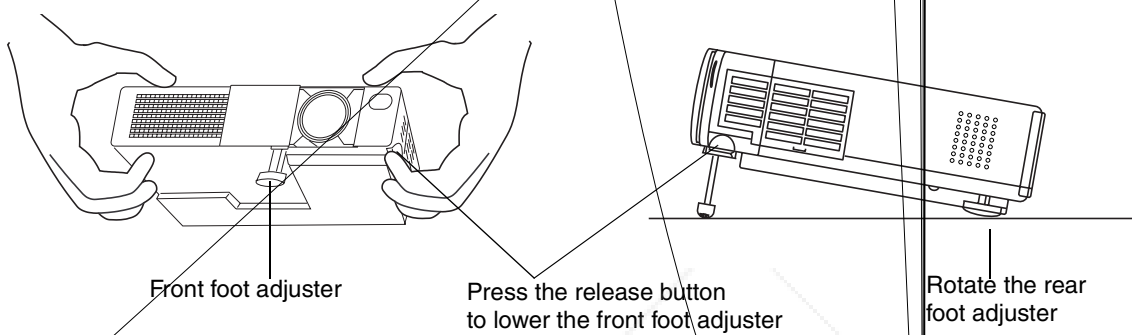

Figure 5: Level Adjustments
- 1 Press the release button to lower the front foot, then tilt the projector up as shown in Figure 5 below.